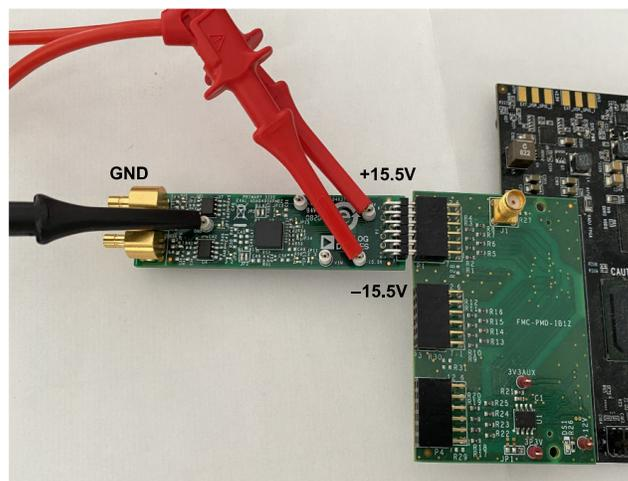

Figure 3. EVAL-ADAQ4001PMDZ and EVAL-ADAQ4003PMDZ External Supply (Optional) Connections
4. Connect the +15.5 V and -15.5 V bench supplies to the +15.5 V and -15.5 V test points on the EVAL-ADAQ4001PMDZ or EVAL-ADAQ4003PMDZ (see Figure 3). Connect the bench supply ground to the GND test point as shown in Figure 3.